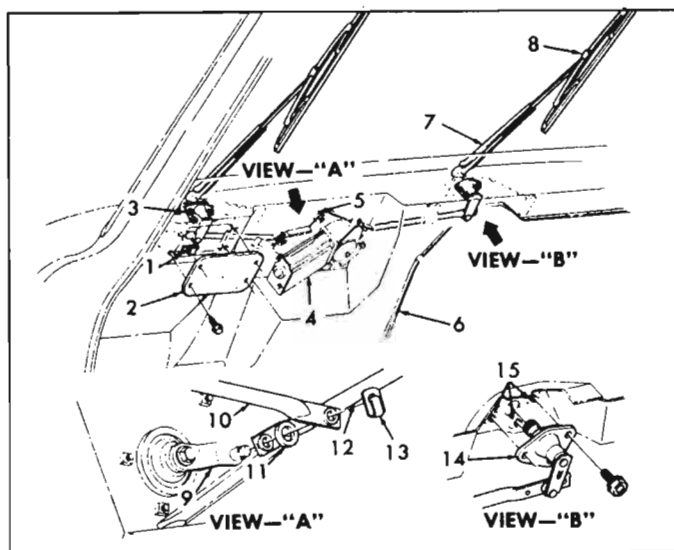
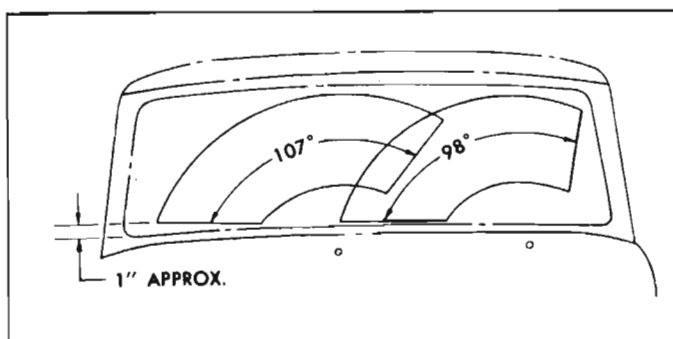

Fig. 10-29a—Windshield Wiper Linkage
Fig. 10-30a—Windshield Wiper Pattern
Windshield wiper units on all models are of the single-speed electric type. A single wiper motor unit, mounted off center in the plenum chamber, powers both wiper blades. The wiper blade operating link rods and pivot mountings on these models are located in the outside air inlet plenum chamber as shown in Figure 10-29a. Wiper motor is controlled by switch marked "wiper" on dash. As optional equipment, push button window washers incorporate a mechanical pump installed on the single speed wiper motor.
To adjust sweep of blades to provide maximum visibility, turn on wipers, then note sweep of arms. If necessary, remove one or both arms as follows: Pull outer end of arm away from glass which will trip lock spring at base of arm and release spring from undercut of pivot shaft. While holding arm in this position, pull outward on cap section at base of arm to remove arm. Arm can be reinstalled in any one of several positions due to serration on pivot shaft and in arm cap (fig. 10-29a).
Refer to Figure 10-29a
- Place pivot and link arm assembly into position (view "B", fig. 10-29a). Secure assembly to plenum chamber weld nuts (15) with three retaining bolts.
- Attach end of left link rod (12) to drive link and install spacer (11).
- Attach end of right link rod (10) to drive link and secure with retainer clip (13).
- Install cover (2) under dash if removed and access hole plug in heater cover, if removed.
- Before installing wiper arms, operate wiper motor momentarily which should rotate pivot shafts to park position. Install arms and shafts so that they are located in the park position. Again operate wipers and check wiper sweep pattern (fig. 10-30a). Reposition arms on pivot shafts if necessary.
- Remove retainer clip at drive link (fig. 10-29a) and disconnect both link rods from wiper motor.
- Install left and right link rods and spacer. Secure link rods with retainer clip. See Figure 10-29a.